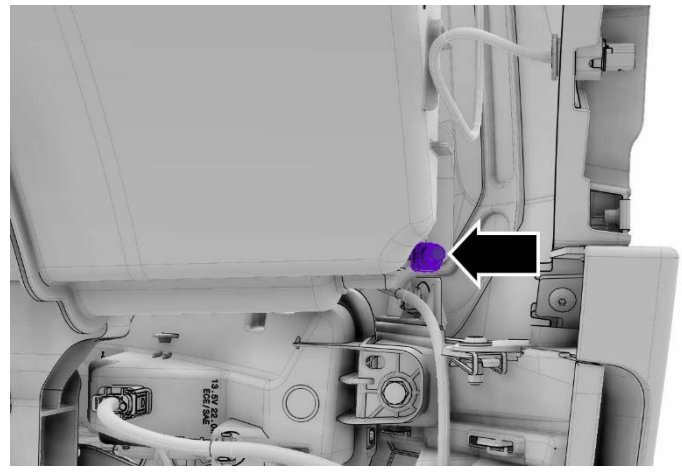

**Figure 15**
1. On the passenger side of the vehicle disconnect the 2 electrical connectors shown. (Figure 15)